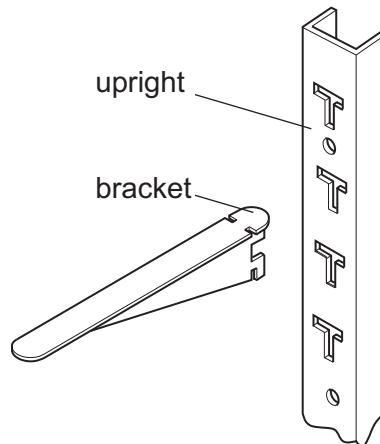

Fig. 3.1
- 3 Fig. 3.1 shows two parts of a shelving system.